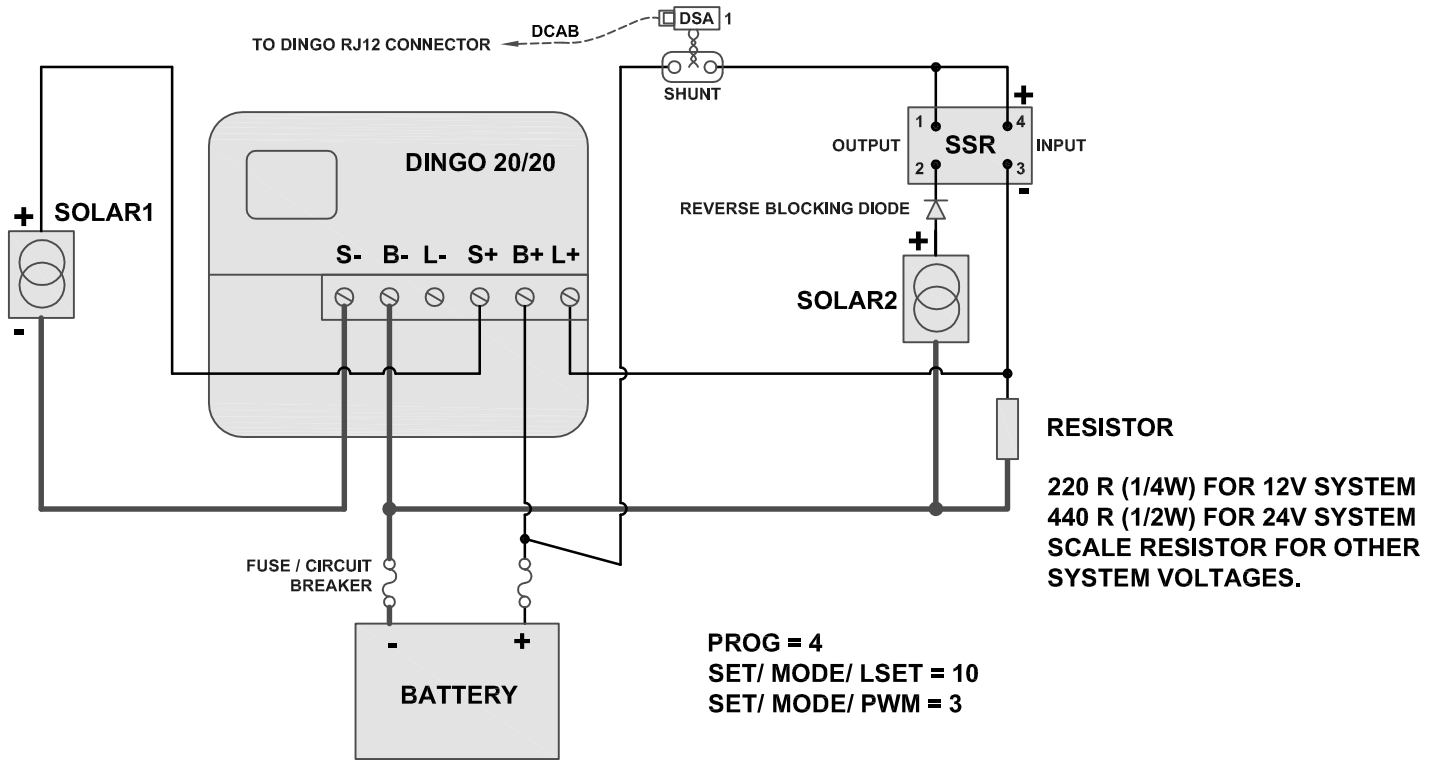

FIG 1. USING SOLID STATE RELAY (SSR) ON LOAD TERMINAL
6. IN FIG 1, PWM = 3 ALLOWS PWM CONTROL ON BOTH THE SOLAR AND LOAD TERMINALS. IF A MECHANICAL RELAY IS USED IN PLACE OF THE SSR, PWM MUST BE SET TO 0 OR 1.